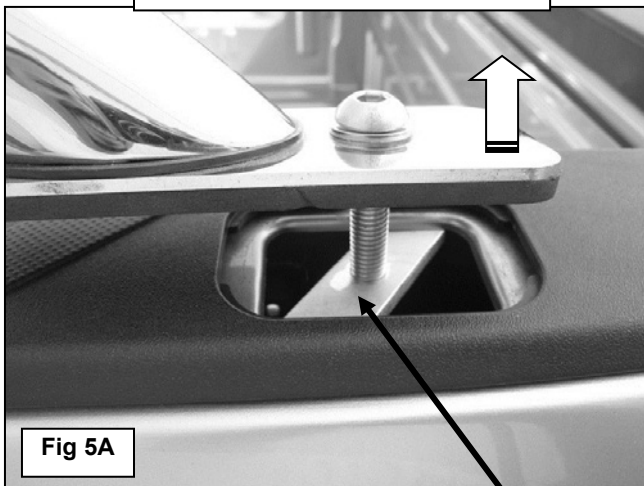

Fig 5A
- To tighten the Brackets, pull up on one end of the Bed Rail and make sure the Bracket is engaged and centered. Keep pulling up on the Bed Rail to prevent Bracket from moving/rotating while tightening the Mounting Bolt. Tighten the front until it is snug but do not fully tighten at this time, **(Figure 5A & 5B)**. Repeat this Step to install the rear of the Bedrail. Once properly centered and aligned, fully tighten both Mounting Bolts.